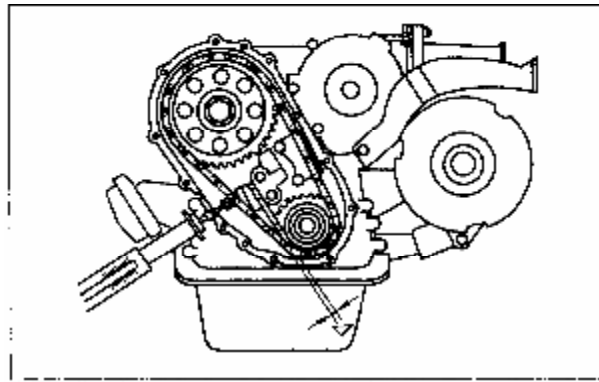

Figure 3-37 Check timing chain slackness
3.4.2 Using a spring scales to pull the timing chain with a force of 98N (Figure 3-37). Measure the clearance “ $\triangle$ ” between chain tensioner plug and support, the value should not exceed 13.5mm . Otherwise replace with new timing chain and sprocket.